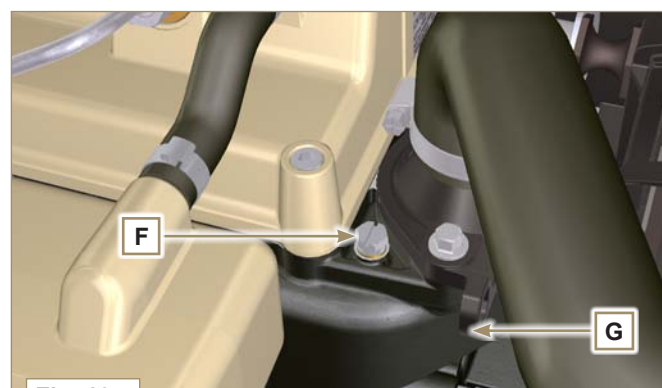

Fig. 10.7
- 6 - Loosen the screw **F** on the head **G**, release any air and tighten the screw **F** (Tightening torque of **8 Nm** - **Fig. 10.7**).